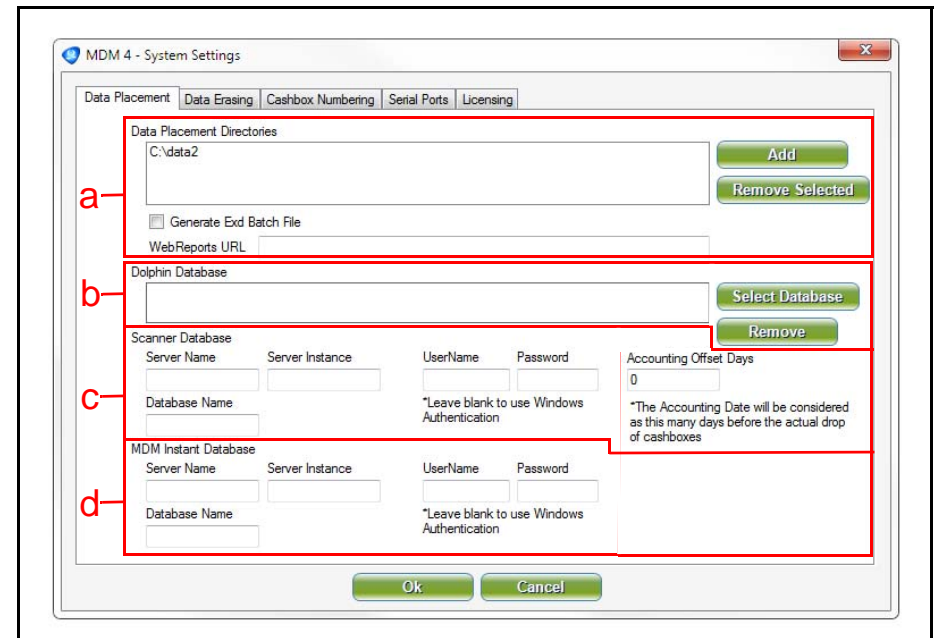

Figure 18 Data Placement Screen
The System Settings 'Data Placement' Screen (Figure 18) will appear. The Screen is divided into the following four (4) Sections (described on Page 14):
- A. **Data Placement Directories** – This section (Figure 18 a) specifies the location where MDM Data Files required by the ICB Web Reports Application are stored. The default storage location is 'C:\data' on the Host PC where the MDM4 Program is installed. The 'Add' and 'Remove Selected' screen buttons may be used to add, change, or remove File storage locations, as required.
- B. **Dolphin Database** – This section (refer to Figure 18 b) is designed for Customers that use the IGT Advantage Accounting System that existed prior to Version 8.2 Service Pack 6. The 'Select Database' and 'Remove' Screen Buttons allow the User to Browse for, select, and/or change the Dolphin Database File.
- C. **Scanner Database** – This section (refer to Figure 18 c) is designed for Customers using the IGT Advantage Accounting System that exists after Version 8.2 Service Pack 6 and later. Depending on the SQL Server Configuration, some or all of the Data Entry Fields may need to be populated.
- D. **MDM Instant Database** – This section (refer to Figure 18 d) allows Cashbox data to be immediately available to be viewed when the Cashbox is docked on the Read/Write Tool without closing MDM. Enter the Server Name, Server Instance and Database Name to enable the Instant Database feature.